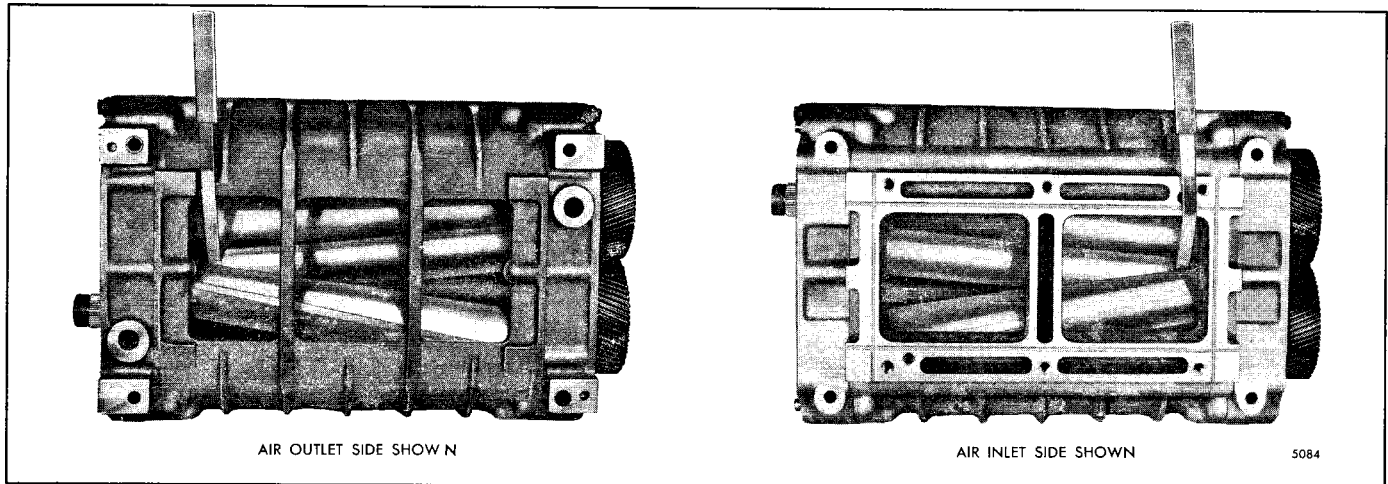

Fig. 20 - Measuring "CC" and "C" Clearance Between Blower Rotor Lobes
After the blower rotors and timing gears are installed, make a preliminary check of the rotor-to-end plate and rotor-to-rotor clearances with a feeler gage (Figs. 20 and 23). Refer to Fig. 21 for minimum blower clearances. The blower rotors, when properly positioned in the housing, run with a slight clearance between the lobes. This clearance may be varied by moving one of the helical gears in or out on the shaft relative to the other gear.
The clearance between the rotor lobes may be checked with 1/2" wide feeler gages in the manner shown in Fig. 20. A specially designed feeler gage set, J 1698-02, for the blower clearance operation is available.
1. Time the rotors to have a minimum clearance of .014" between the *trailing* edge of the right-hand helix rotor and the *leading* edge of the left-hand helix rotor ("CC" clearance) measured from both the inlet and outlet sides (Figs. 20 and 21). Check the clearance between the *leading* edge of the right-hand helix rotor and the *trailing* edge of the left-hand helix rotor ("C" clearance) for the minimum clearance of .024". Rotor-to-rotor measurements should be taken 1" from each end, and at the center of the blower.